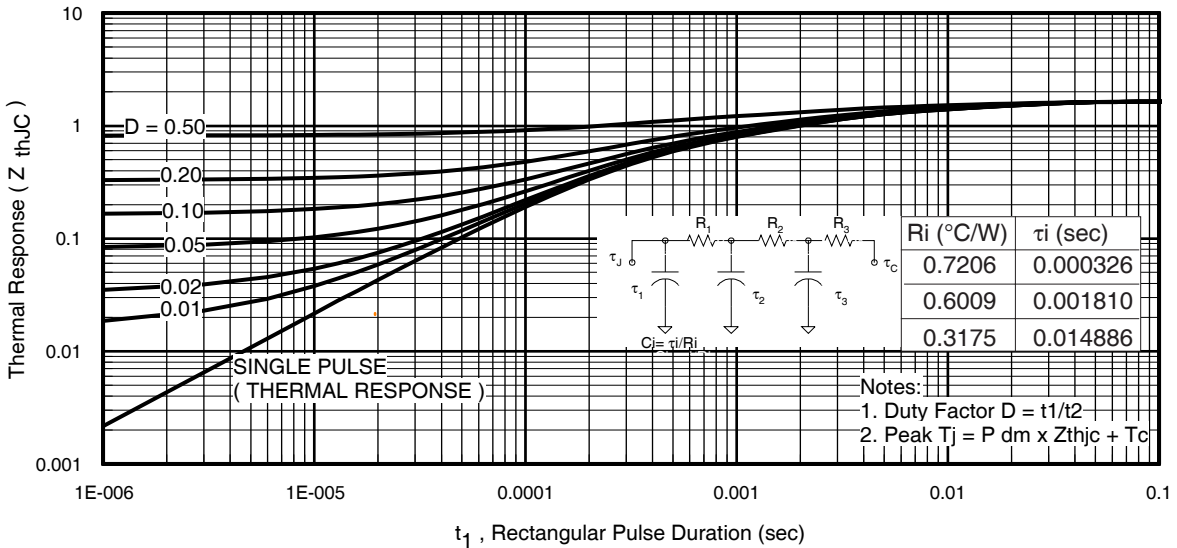

Fig 11. Maximum Effective Transient Thermal Impedance, Junction-to-Case
$Z_{thJC}(D, t_{av})$ = Transient thermal resistance, see figure 11)
- ① Repetitive rating; pulse width limited by max. junction temperature. (See fig. 11).
- ② Limited by T_{Jmax} , starting $T_J = 25^\circ\text{C}$, $L = 0.11\text{mH}$